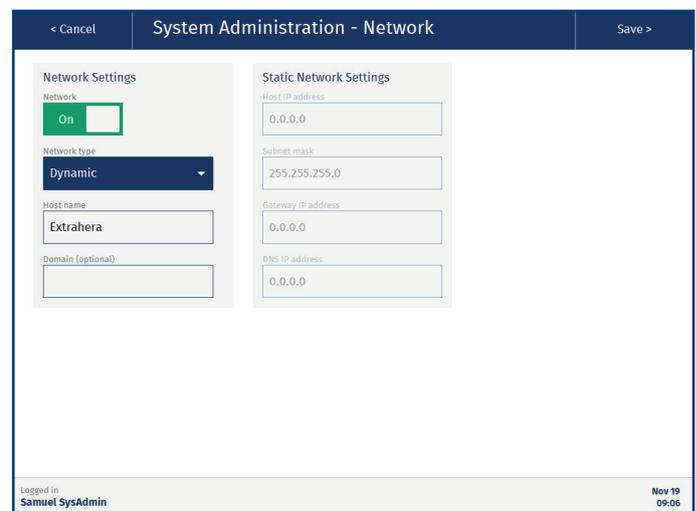

Figure 23. The Network view.
3. In the **Network** view (see Figure 23), enable the **Network** option.